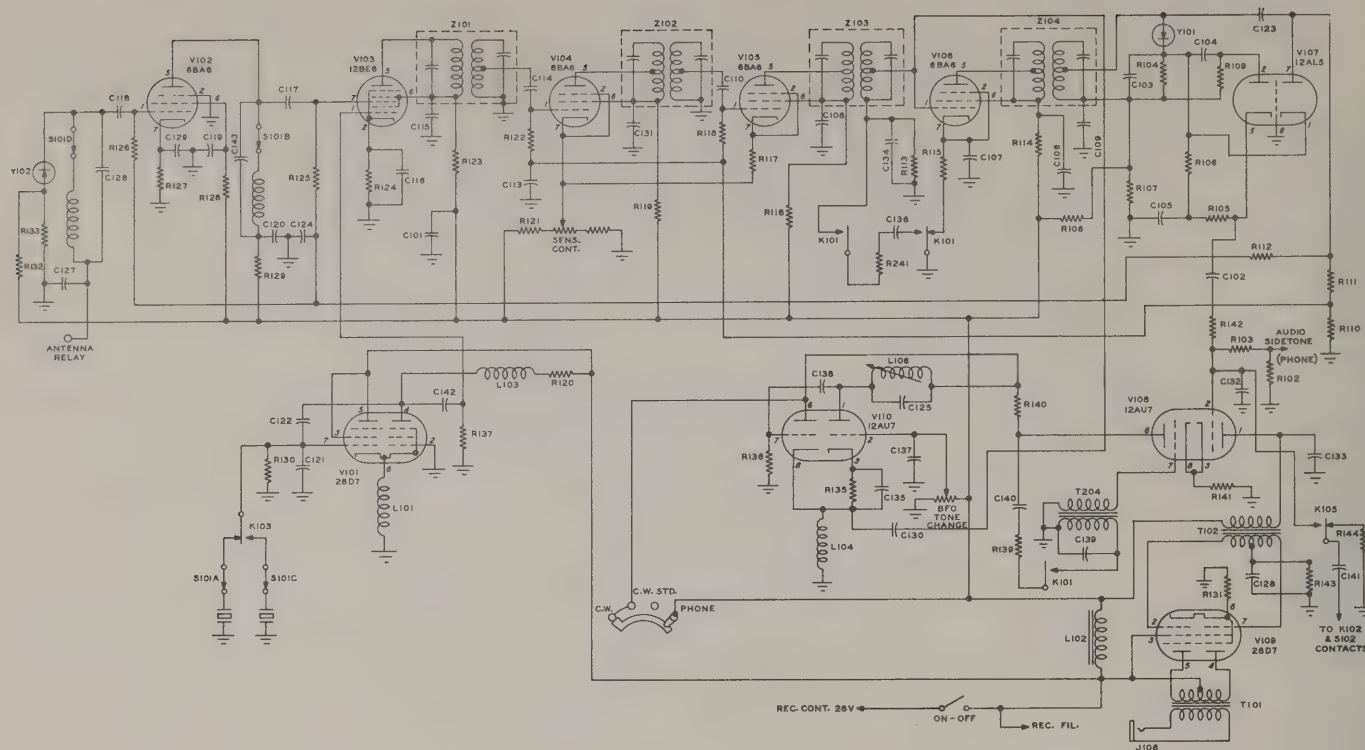

Figure 2-8 Receiver Section Schematic
#### (c) RECEIVER CIRCUITS. - See figure 2-8.
(8) AUTOMATIC VOLUME CONTROL. - One section of the duo-diode tube V107, type 12AL5 is employed in a delayed AVC circuit (terminals number 1 and 7 on socket X107). The plate of the AVC tube is coupled to the output terminal on the last i-f transformer (terminal number 5) by capacitor C123. A fixed positive voltage obtained from the primary power supply, is placed on the cathode of the AVC tube through a voltage divider consisting of R107 and R108 and through series resistors R104, R105 and R106. This positive voltage on the cathode, biases the diode so the tube will not rectify the i-f carrier applied to the plate until the i-f carrier voltage is of great enough amplitude to overcome the fixed bias voltage. In this manner, the AVC controlled tubes are maintained at the most sensitive condition on weak signals. As soon as the i-f carrier signal becomes great enough in amplitude to overcome the fixed bias, the AVC tube rectifies a portion of the carrier voltage. The d-c voltage thus developed across load resistors R110 and R111 is applied to the grids of the r-f amplifier and the first two i-f amplifier tubes. The last i-f stage is equipped with a delay circuit to prevent key clicks from appearing in the receiver output on CW. The delay voltage is taken from C136 when the microphone relay is closed, and thus blocks the grid of the last i-f tube momentarily.
(9) AUDIO AMPLIFIER. - Refer to figure 2-8. One-half of V-108, type 12AU7 dual triode tube is employed as an audio driver in the receiver. The 12AU7 tube receives grid excitation from the noise limiter through capacitor C102. The driver tube is transformer coupled to the grids of the audio output tube by transformer T102.